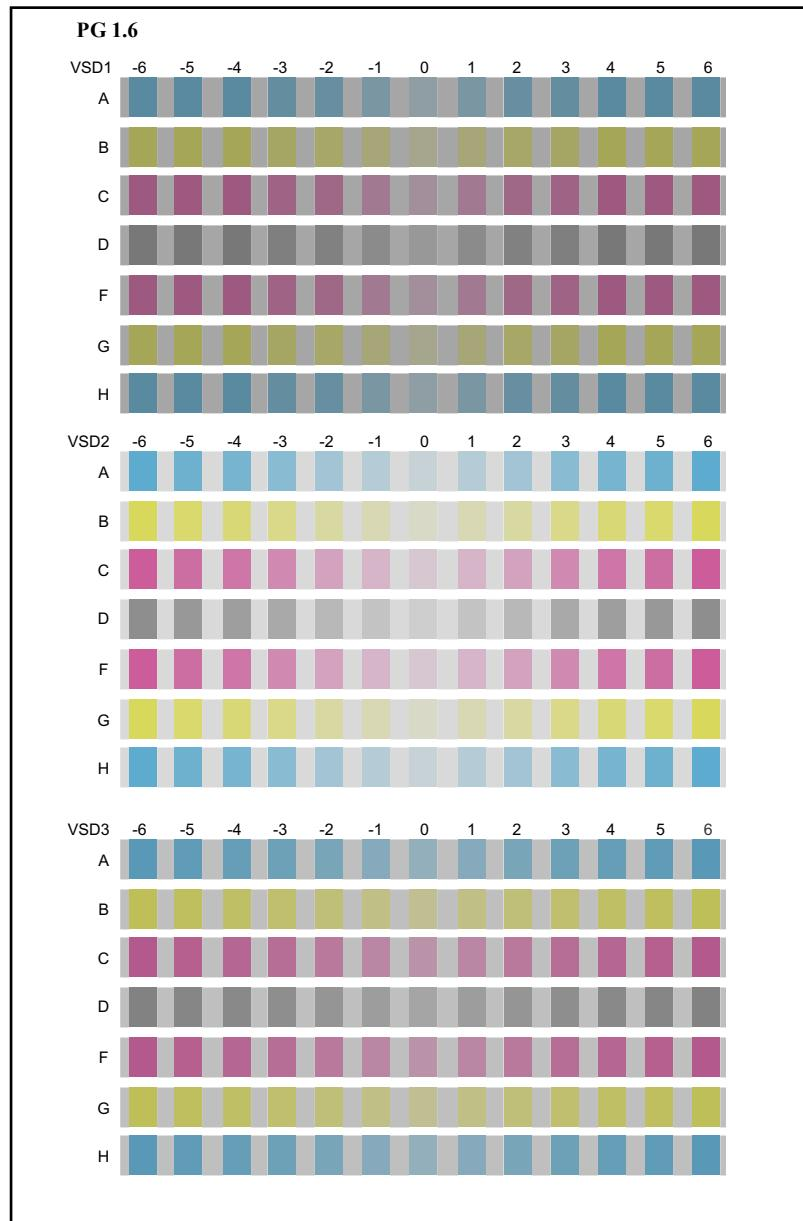
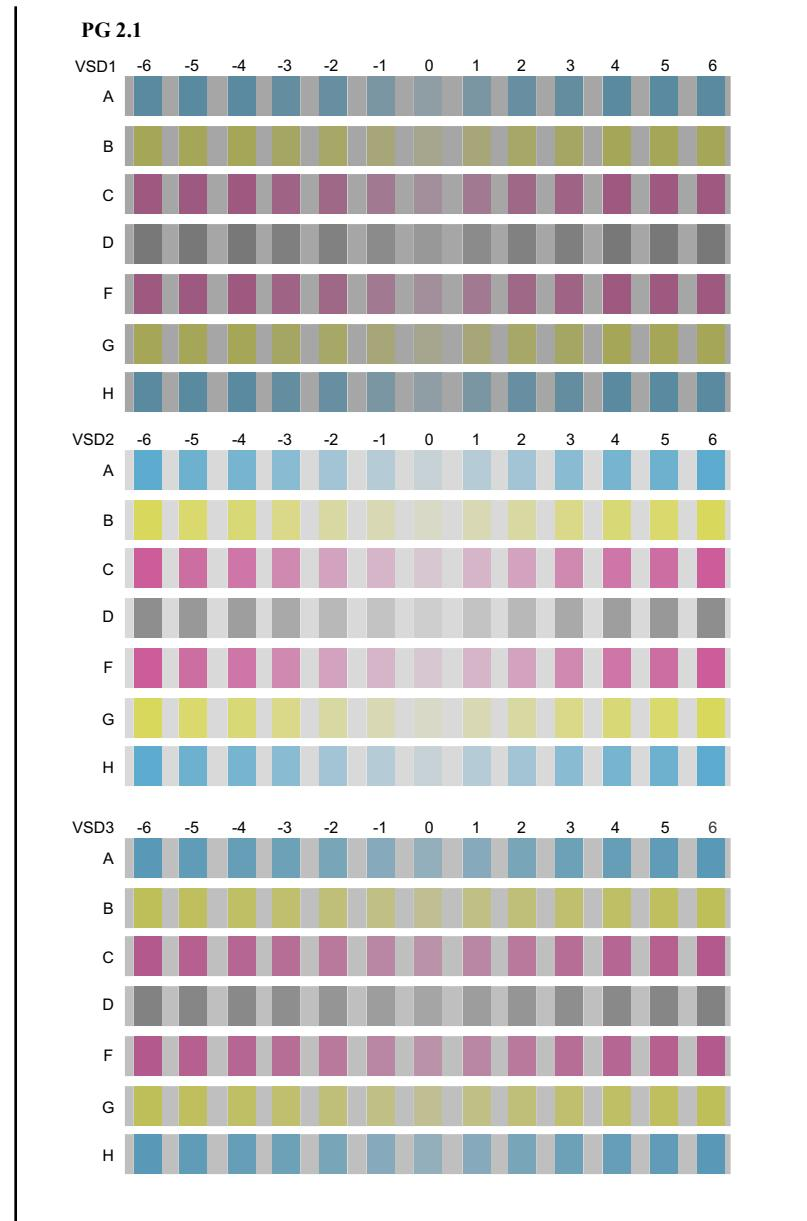

Figure 4-44. Adjustment pattern (1)
Figure 4-45. Adjustment pattern (2)
- Refer to Figure 4-44 and Figure 4-45, select the printed pattern with the most pale color, and input it in the service program.